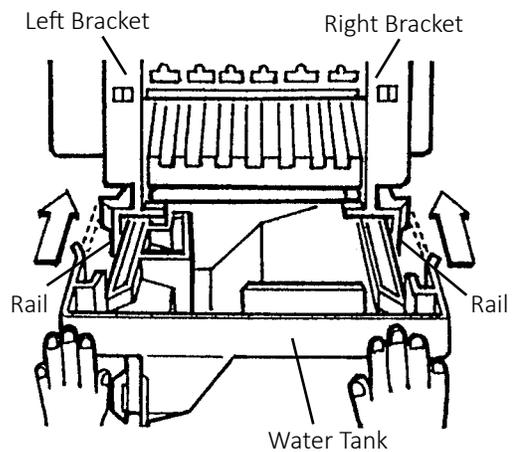

Fig. 37
- Slide in the water tank along the rails at the bottom of the left and right brackets until it locks into place. See Fig. 37.